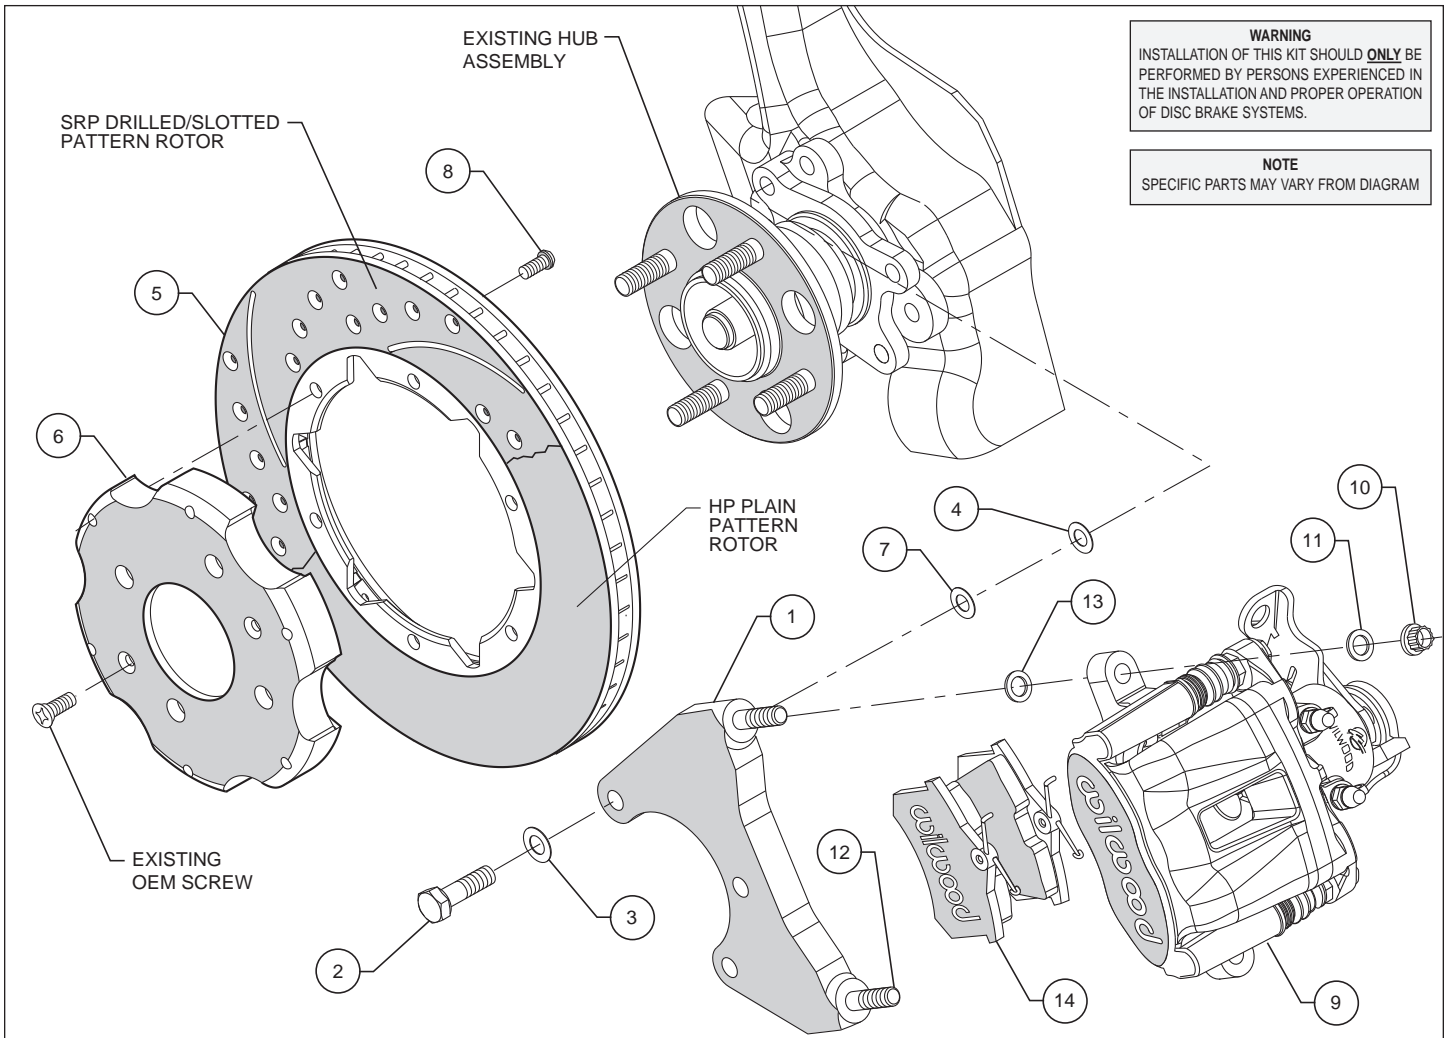

Figure 1. Typical Installation Configuration
- The caliper mounting bracket (1) should be installed first with clean, dry threads on the mounting bolts. Install the bracket (1) on the outboard side of the hub assembly by sliding bolt (2) through washer (3) and bracket (1) and thread into the existing hub assembly mounting holes. Place two shim washers (7) between the hub assembly and the caliper mounting bracket (1). The mounting bracket (1) must tighten squarely against the outboard side of the hub assembly face. Inspect for interference from casting irregularities, machining ridges, burrs, etc. Use two shims (7) between the mounting bracket (1) and hub assembly face during initial trial fitting.
- With the larger I.D. side of the rotor (5) facing away from the hat (6), attach rotor (5) to hat (6) using bolts (8) as shown in Figure 1. Using an alternating sequence, remove bolts one at a time, apply red *Loctite*® 271 to the threads, and torque to 25 ft-lbs.
- Slide the brake pads (14) up into the caliper (9) from the bottom until the "v" spring clip snaps into place against the anvil. They should install easily without interference.
- Lubricate caliper mounting studs and nuts with lightweight oil. Install two shims (13) over each stud (12) on the radial mount bracket (1). Slide the caliper (9) in place over the studs and rotor and install the washer (11) and lock nut (10) to hold the caliper in place. The caliper bleed screw should be pointing toward the rear of the vehicle. Snug the lock nuts (10) and check that the caliper (9) is centered over the rotor (5). Add or subtract .016" shims (4) and/or .030" shims (7) as necessary between the caliper mounting bracket (1) and the spindle face to center the caliper (9) on the rotor (5).
- Check that the outside radius of the brake pad (14) is aligned with the outside diameter radius of the rotor face. Add or subtract shims (13) between the caliper (9) and caliper mounting bracket (1) to gain the proper alignment.
- Once all clearances have been checked, remove the wheel, caliper and rotor from the axle flange. Secure the caliper mounting bracket (1) to the spindle face while applying red *Loctite*® 271 on the bolt threads (2). Torque the bolts (2) to 40 ft-lbs. Reinstall the rotor and again use several lug nuts to hold it in place being sure to align the small countersunk holes in the hat (6) with the corresponding holes in the hub. Reinstall the caliper, torque the caliper nuts (10) to 30 ft-lbs.